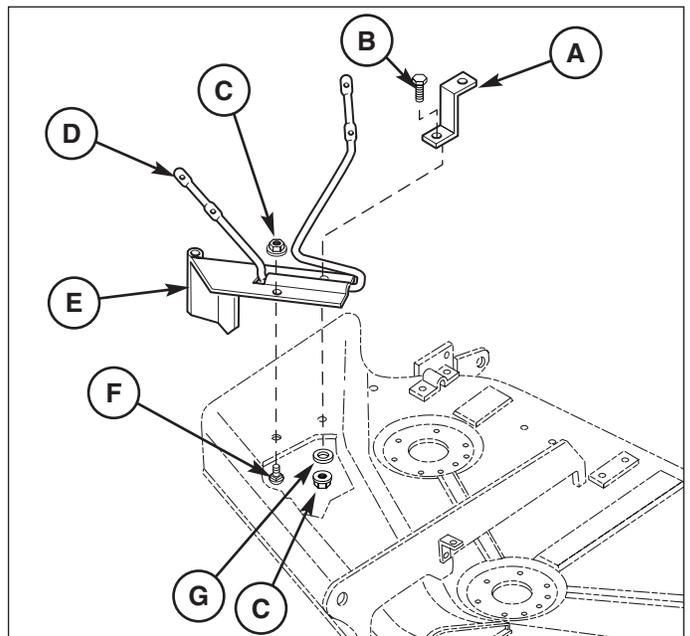

Figure 5. Install Deflector Hinge
2. Remove and discard the plastic plugs from the deck at the locations used by bolts (F & B, Figure 5).
3. Slide the deflector rod (D) through the pivot bracket (E).
4. Secure the front of the pivot bracket with a 5/16-18 x 3/4" carriage bolt (F) and flange whizlock nut (C).
5. Secure the back of the pivot bracket (E) and belt cover support (A) with a 5/16-18 x 1 capscrew (B), 5/16 washer (G), and flange whizlock nut (C).